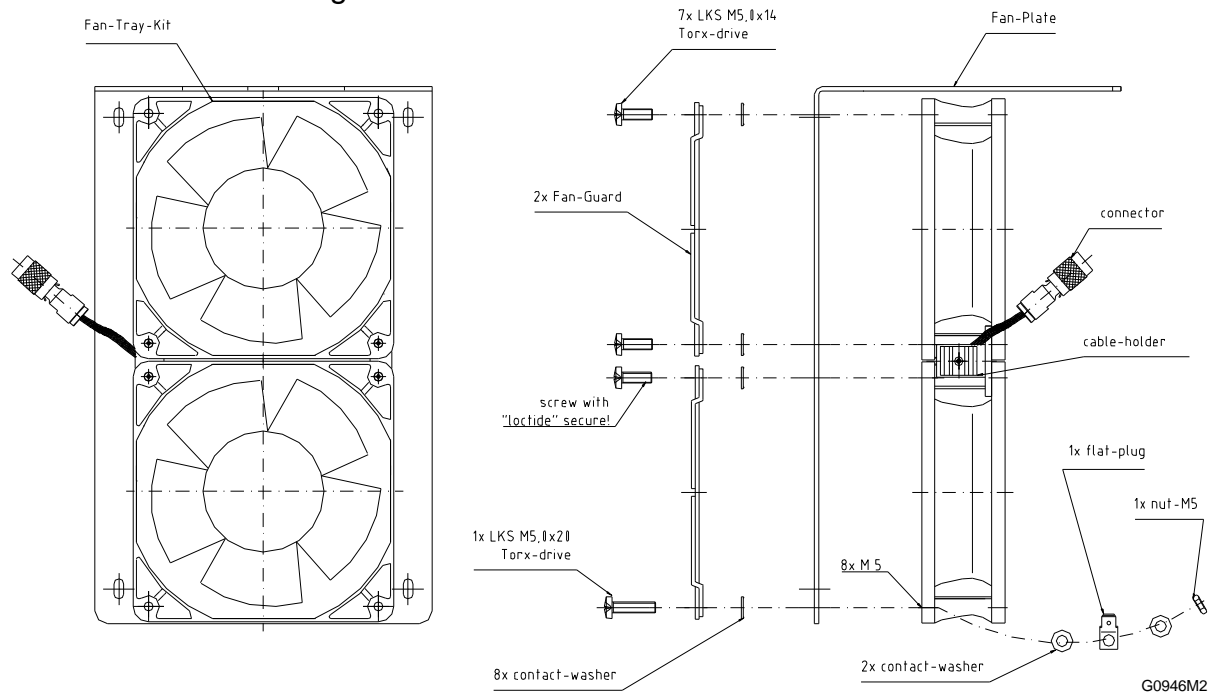

figure 7-1 Fan unit assembly
4. To remove the fan plate, loosen the M5 nut (as shown in *figure 7-1 Fan unit assembly*) as well as the corresponding contact washers and flat-plug. Then, loosen the eight tallow-drop screws by which the fan unit is screwed to the fan plate (seven screws M5x14 and one M5x20).